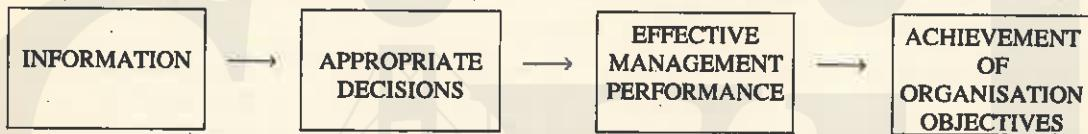

Fig. 39.3. The role of information
- One of the most important processes in managing the activities of an organization is making *decisions about alternatives*. When the information available is not sufficient to make a decision, the manager needs to gather more information about the alternatives, compare them, and then choose an alternative. Decisions made without sufficient information are at best only estimates and typically lead to poor management performance. As shown in Fig. 39.3, quality information in the hands of those who can make good use of it supports appropriate management decision making. The resulting management performance should then lead to the successful achievement of the organisational objectives.